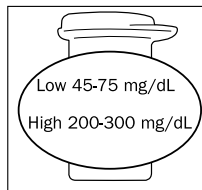

Figure 21
After seven (7) seconds, the control solution test result appears on the display. Compare the test result with the range printed on the test strip vial. Each vial of Prodigy® No Coding Test Strips may have a different control solution range. The result should fall within the printed range on the test strip vial. See Figure 21.